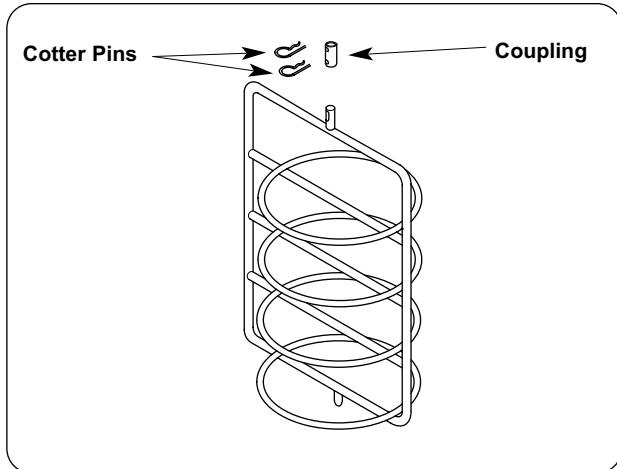

Figure 9. Rotating Rack
2. Remove the two cotter pins from the rotating rack coupling located at the top of the rack inside the cabinet. (See Figure 9.)